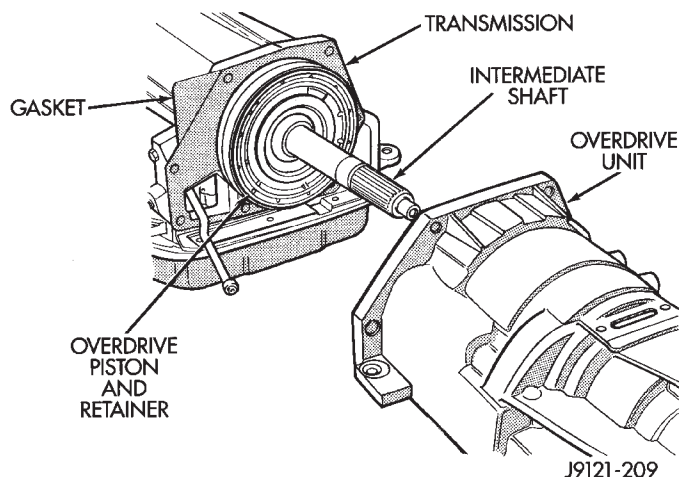

Fig. 3 Removing Overdrive Unit From Transmission—46RH
- (6) Work overdrive unit rearward and off transmission intermediate shaft (Fig. 3).